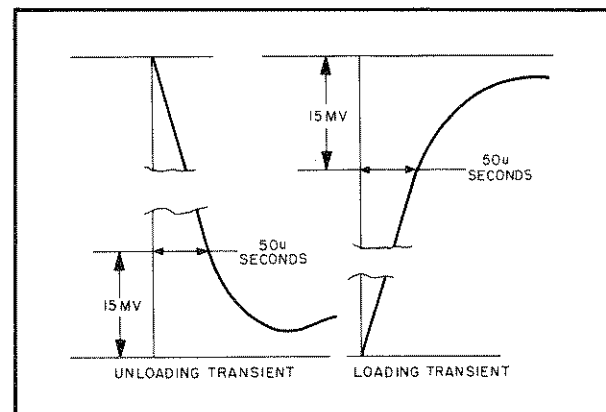

Figure 5-8. Transient Recovery Time, Waveforms
- Starting from the major graticule division representative of time zero, count to the right 50µsec and vertically 15mV. Recovery should be within these tolerances as illustrated in Figure 5-8.